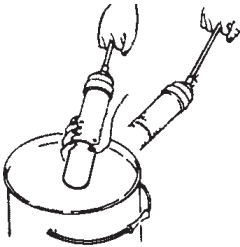

Figure 3
3. Insert the open end of the grease tube assembly into lubricant (see Fig. 3). Slowly pull the follower handle back while pushing the grease tube assembly deeper into the lubricant to prevent air pockets from being pulled into the grease tube assembly.